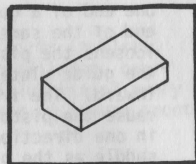

Fig. 18 - End Taper
60. End Taper (See Fig. 18) Move the tops of both guide plates toward the thin end. Move the bottoms of both guide plates toward the thick end. (See Fig. 1) The tops should be moved as far in one direction as the bottoms are in the other.